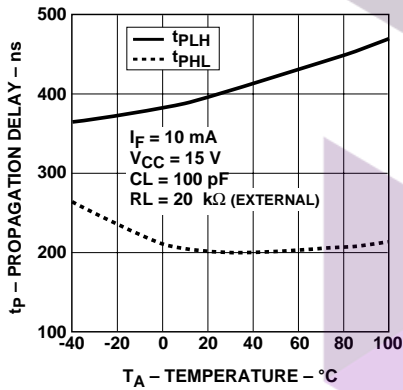

Figure 8. Propagation delay with external 20 kΩ RL vs. temperature.
- Due to tolerance of the internal resistor, and since propagation delay is dependent on the load resistor value, performance can be improved by using an external $20\text{ k}\Omega$ 1% load resistor. For more information on how propagation delay varies with load resistance, see Figure 8.